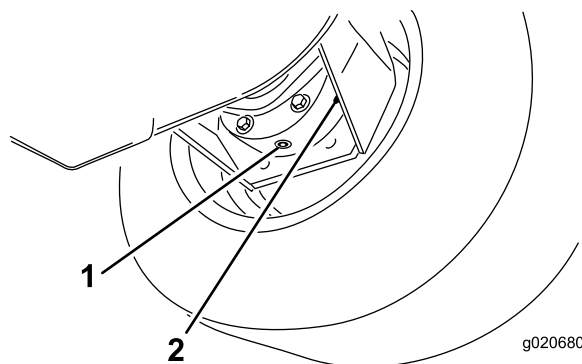

Figure 90
3. Place a drain pan under the brake housing, remove the drain plug, and allow the oil to drain (Figure 90).